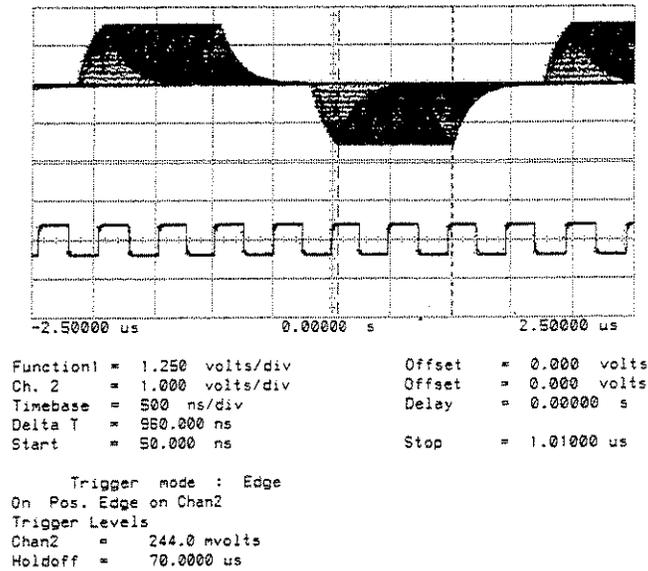

Figure 8-25 2UI p-p Jitter
30. Continue increasing the Signal Source frequency until the observed jitter falls to 2 UI p-p as in Figure 8-25. Check that the frequency is > 12 kHz (typically this will be >40 kHz).